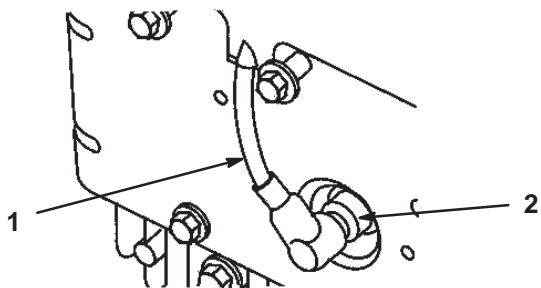

Figure 31
2. Pull the wire(s) off the spark plug(s) (Fig. 31). Now clean around the spark plug(s) to prevent dirt from falling into the engine and potentially causing damage.
3. Push the wire(s) onto the spark plug(s) (Fig. 31).